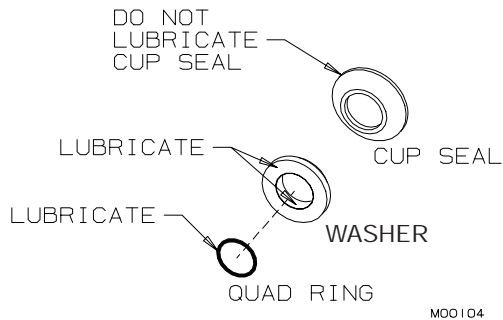

Figure 7-1 Shaft seal assembly
1. Assemble the cup seal on the plastic washer to complete the beater shaft seal (see figure 7-1). Apply a moderate amount of approved sanitary lubricant, such as Lubri-Film Plus, to the internal surface and the face of the plastic washer opposite the bell shaped portion of the seal.